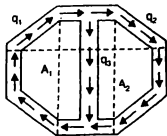

Figure 3
19. If the slit in the shaft of section is welded is shown in Figure 3, find the torque resisting capacity of the shaft for the same angle of twist/unit length i.e. 42276×10^{-8} rad/metre. Also find the shear stresses in different branches.